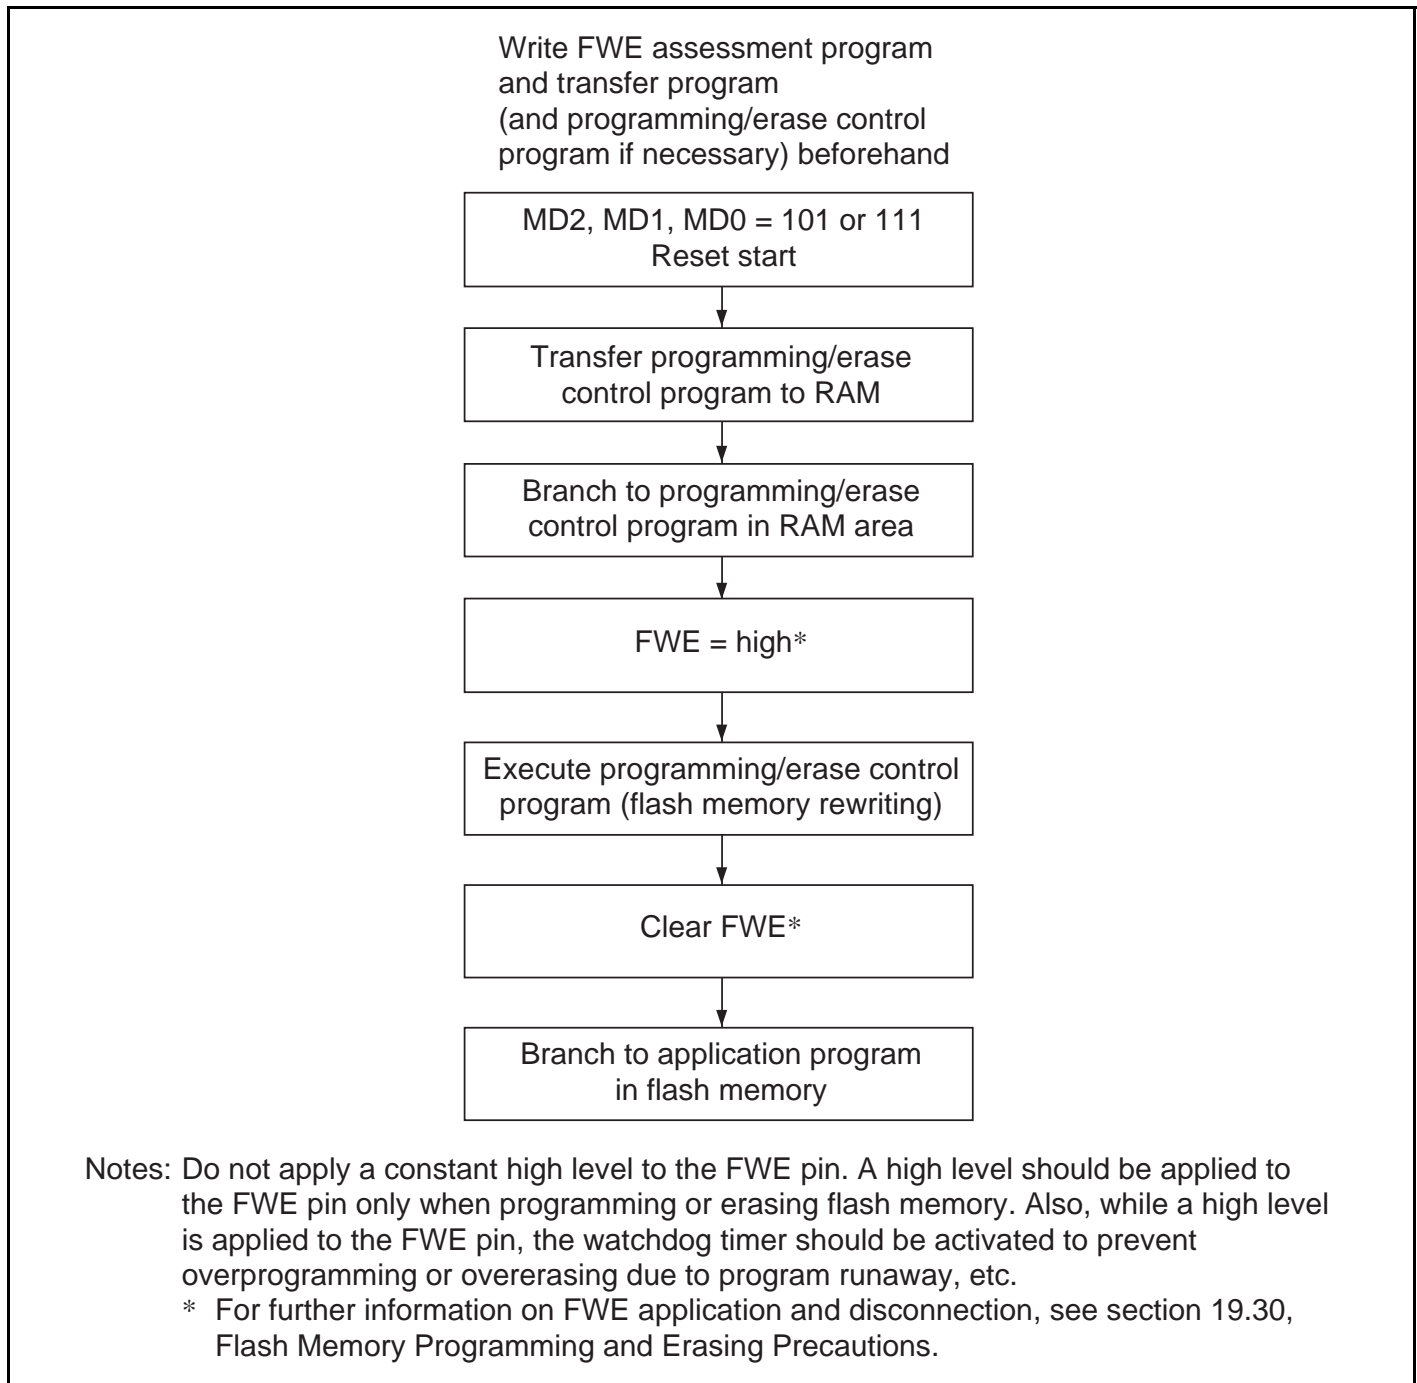

Figure 19.70 Example of User Program Mode Execution Procedure
Figure 19.70 shows the procedure for executing the program/erase control program when transferred to on-chip RAM.
Follow the procedure shown in the program/program-verify flowchart in figure 19.70 to write data or programs to flash memory. Performing program operations according to this flowchart will enable data or programs to be written to flash memory without subjecting the device to voltage stress or sacrificing program data reliability. Programming should be carried out 128 bytes at a time.
After the elapse of a given programming time, the programming mode is exited (the Pn bit in FLMCRn is cleared to 0, then the PSUn bit is cleared to 0 at least (α) μs later). Next, the watchdog timer is cleared after the elapse of (β) μs or more, and the operating mode is switched to program-verify mode by setting the PVn bit in FLMCRn. Before reading in program-verify mode, a dummy write of H'FF data should be made to the addresses to be read. The dummy write should be executed after the elapse of (γ) μs or more. When the flash memory is read in this state (verify data is read in 16-bit units), the data at the latched address is read. Wait at least (ε) μs after the dummy write before performing this read operation. Next, the originally written data is compared with the verify data, and reprogram data is computed (see figure 19.70) and transferred to the reprogram data area. After 128 bytes of data have been verified, exit program-verify mode and wait for at least (η) μs , then clear the SWEn bit in FLMCRn to 0, and wait again for at least (θ) μs . If reprogramming is necessary, set program mode again, and repeat the program/program-verify sequence as before. However, ensure that the program/program-verify sequence is not repeated more than (N) times on the same bits.